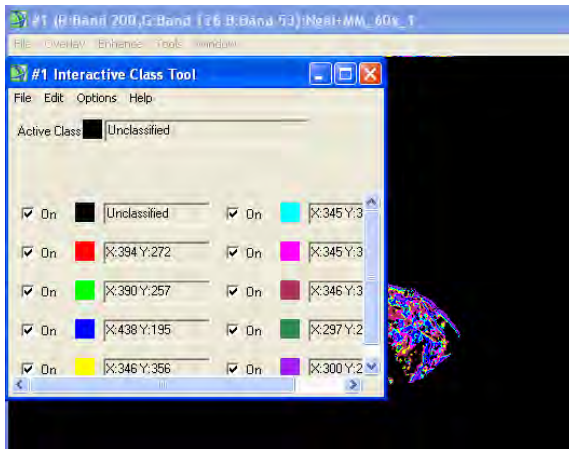

Figure 30. Overlay Image with Interactive Class Tool window
- a. Right click on the box next to any colored square (see Figure 30)